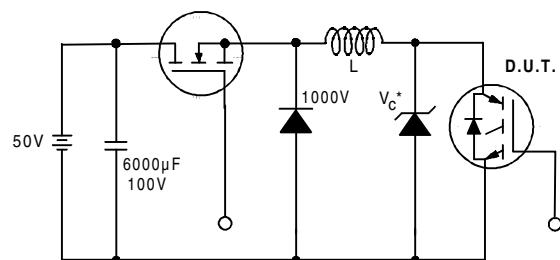

Figure 19. Clamped Inductive Load Test Circuit
- ② $V_{CC}=80\% (V_{CES})$, $V_{GE}=20V$, $L=10\mu H$, $R_G = 50\Omega$ (figure 19)
- ③ Pulse width $\leq 80\mu s$; duty factor $\leq 0.1\%$.
- ④ Pulse width $5.0\mu s$, single shot.
- ⑤ $t = 60s$, $f = 60Hz$